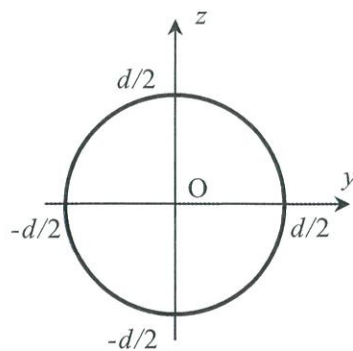

Figure 1-4
- (2) As shown in Figure 1-4, the Cartesian coordinate system  $(y, z)$  is defined so that its origin O corresponds to the center of the circular cross-section of the bar. Prove that the area moment of inertia with respect to the  $y$ -axis is  $\pi d^4/64$ .